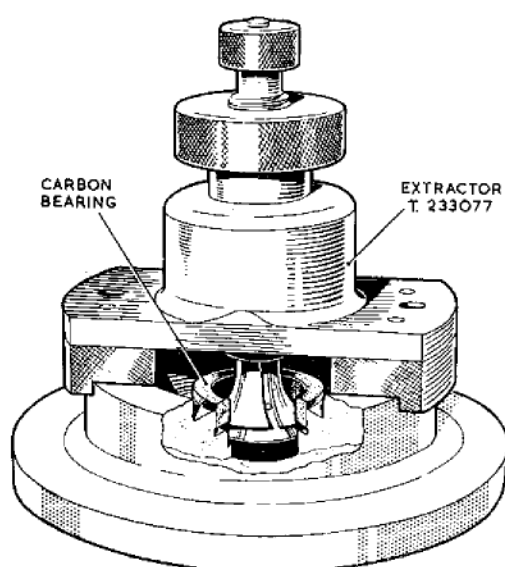

Fig. 3. Extracting the carbon bearings
21. The plain carbon bearing is removed in a similar manner to the bearing in the rotor housing by using the extractor T.233077, fig. 3.
the extractor T.233077 (fig. 3). Do not withdraw the locating dowel unless it is damaged or loose.